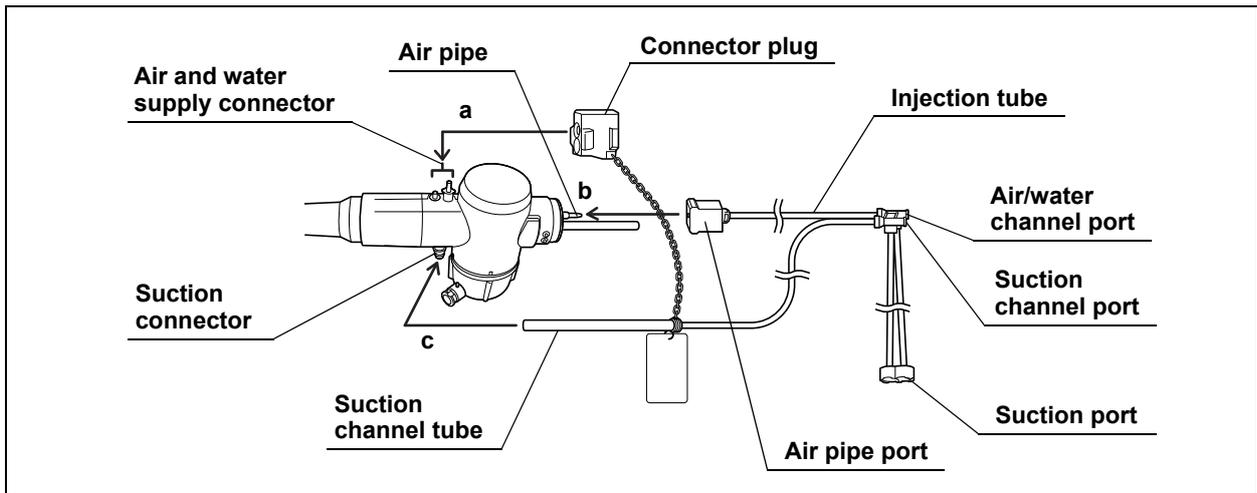

Figure 5.29
3. Immerse the suction port of the injection tube (MH-946) in the water. (See Figure 5.29)
3. Attach a sterile 30 ml syringe to the suction channel port of the injection tube and flush the suction channel with 90 ml of air – i.e., pump the syringe at least three times. (See Figure 5.29 and 5.31)